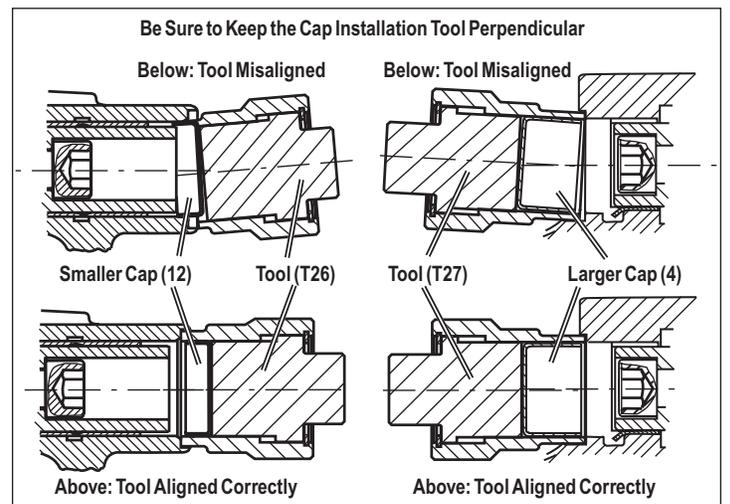

Figure 16 - Guide Cap Installation
Select one cap, and with the correct installation tool—the smaller cap (12) uses tool (T26), and the larger cap (4) uses tool (T27)—place the cap in position, using the machined channel in the caliper to assist in centering the tool. Use a hammer to tap them into position. See Figure 16. Note that the tool needs to remain perpendicular to the channel to prevent damage during installation. See Figures 16, 17 and 18. Note that, after installation, the smaller cap (12) extends 0.08 in. (2 mm), and the larger cap (4) extends 0.61 in. (15.5 mm).